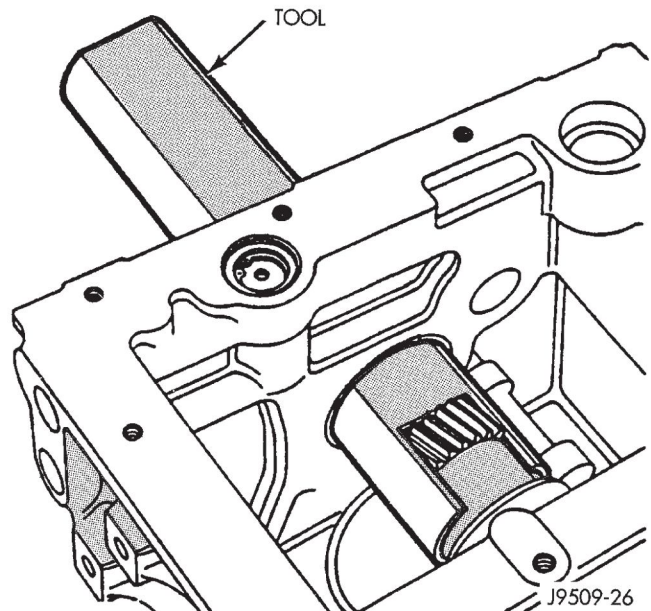

Fig. 52 Crankshaft Special Tool VM.1004
- (8) Remove water manifold.
- (9) Remove oil feed lines to rocker arms.
- (10) Remove cylinder heads.
- (11) Remove oil pan and oil pick-up.
- (12) Remove piston and connecting rods from crankshaft journals.
- (13) Remove pistons and connecting rods from block.
- (14) Remove vibration damper. Refer to procedure in this section.
- (15) Remove front cover. Refer to procedure in this section.
- (16) Remove oil pump drive gear.
- (17) Remove timing chain. Refer to procedure in this section.
- (18) Install special tool VM-1004 onto crankshaft over gear (Fig. 52).